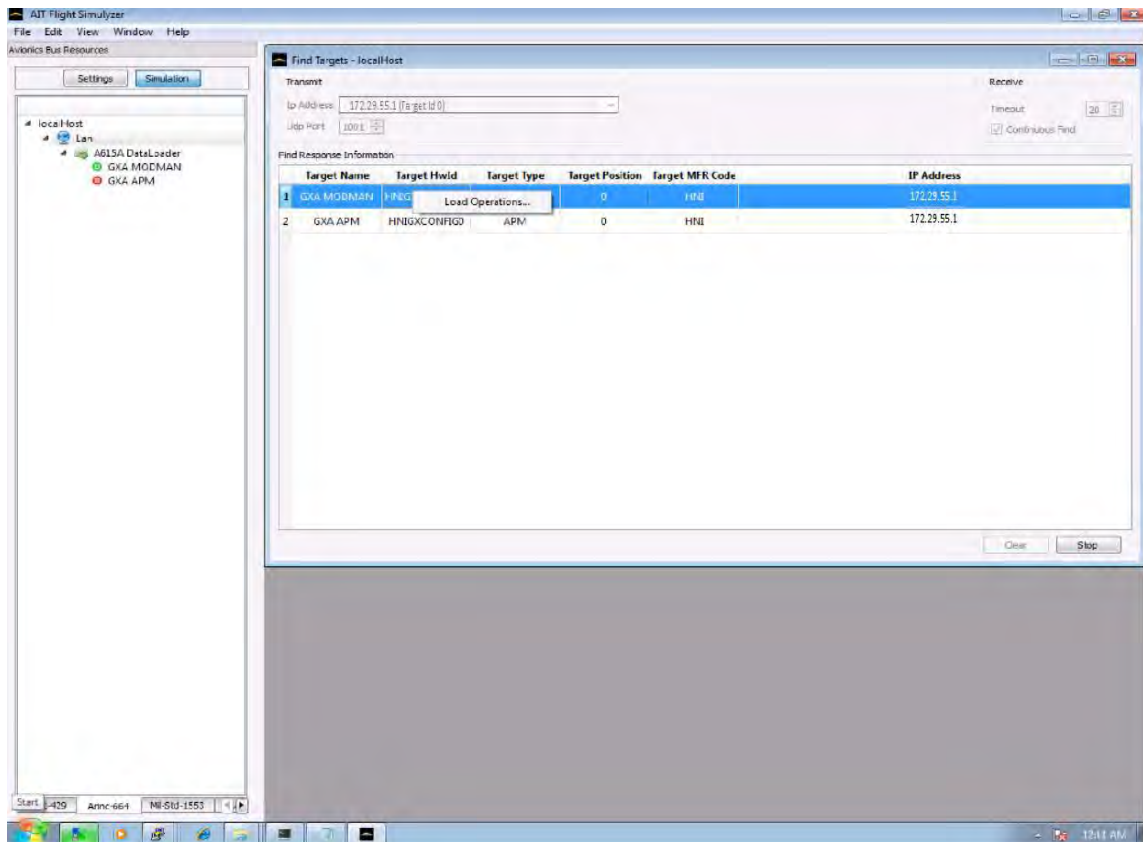

Figure 3-4. AIT F-SIM-LDR ARINC 615A Find Dialog Box
(2) Preparation for Loading Software
(3) FIND Loadable Targets
- (a) The ARINC 615A FIND operation is used to identify available loadable target systems. The loadable targets responding to the FIND request will be shown after the timeout on the data loader, indicating target identification and source address (IP) information. Figure 3-4 shows the screen shot of AIT F-SIM-LDR ARINC 615A FIND dialog box.